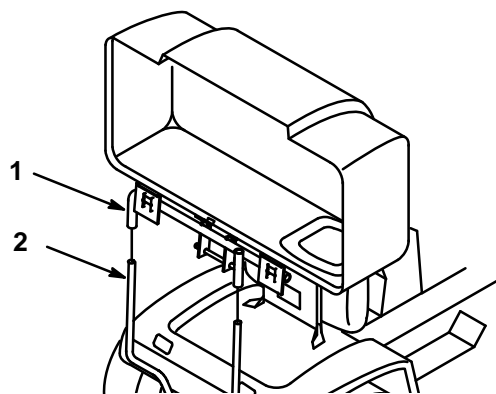

Figure 29
3. With the lid in the open position carefully lift the bagger top and slide off the quick-attach bracket (Fig. 29).